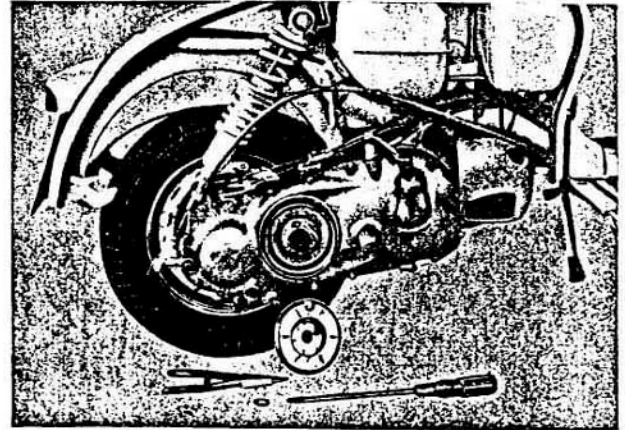

Fig. 3
- 5 Remove the pedal return spring cover after extracting its circlip. See Fig. 3.